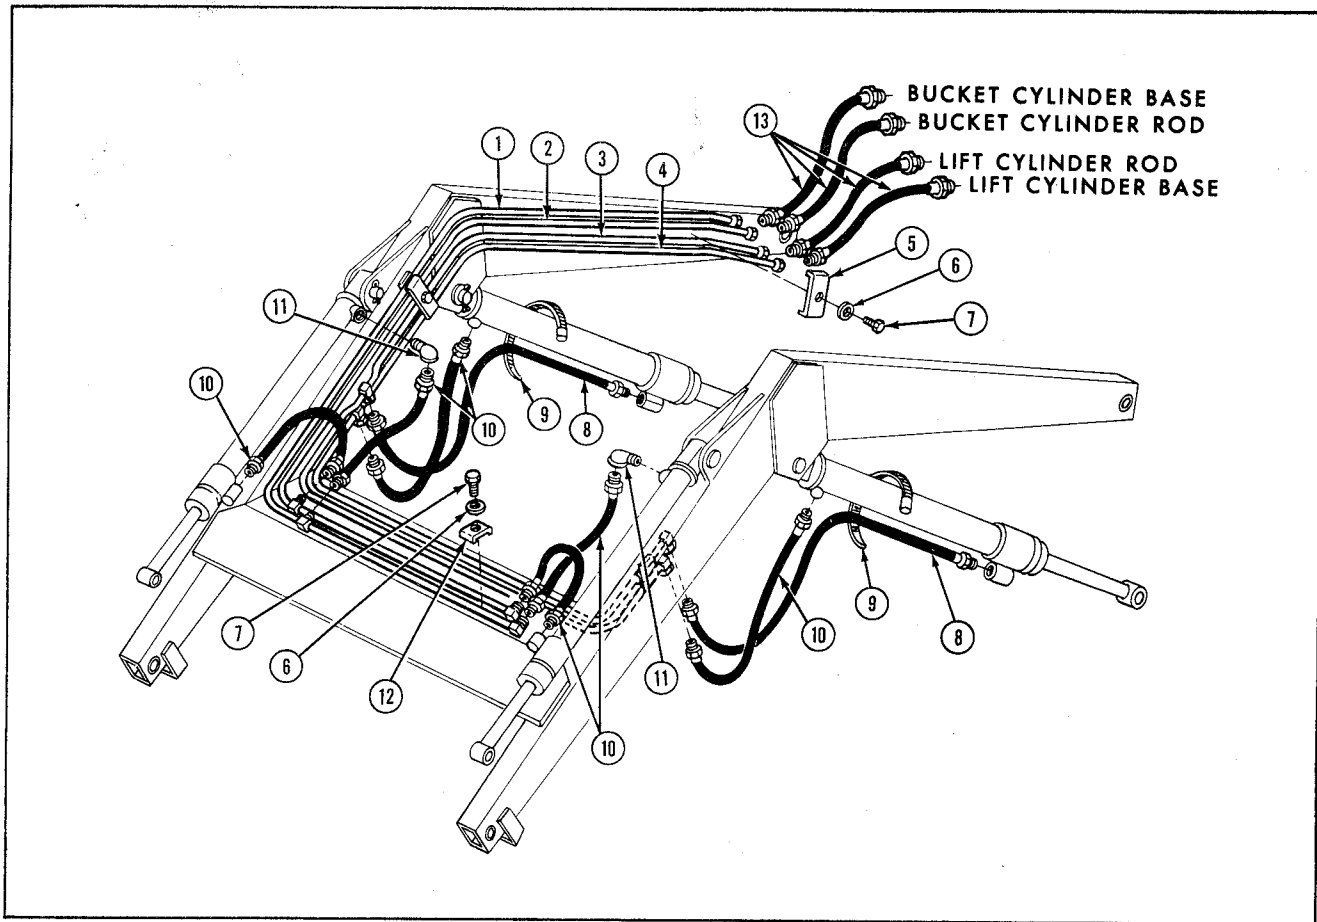

Figure 4
1. Position oil lines (1, 2, 3 and 4), Figure 4, along the inside of right boom arm and along the top of the boom cross member as shown.
2. Fasten oil lines to the right boom arm with two tube clamps (5), cap screws (7) and lock washers (6), then to left boom arm and boom cross member with two tube clamps (12), caps screws (7) and lock washers (6).
1. Install one end of a 3/8" x 38" hose (8), Figure 4, into each lift cylinder rod port and the other end of hose to the swivel fittings on oil line (3). Secure hoses (8) to the lift cylinder tubes with hose clamps (9).
2. Install one end of a 3/8" x 19" hose (10) into each lift cylinder base port and the other end of hose to the swivel fittings on oil line (4).
1. Install one end of a 3/8" x 19" hose (10), Figure 4, into each bucket cylinder rod port and the other end of hose to the swivel fittings on oil line (2).
2. Install one 3/8" street elbow (11) and one end of a 3/8" x 19" hose (10) into each bucket cylinder base port and the other end of hose to the swivel fittings on oil line (1).